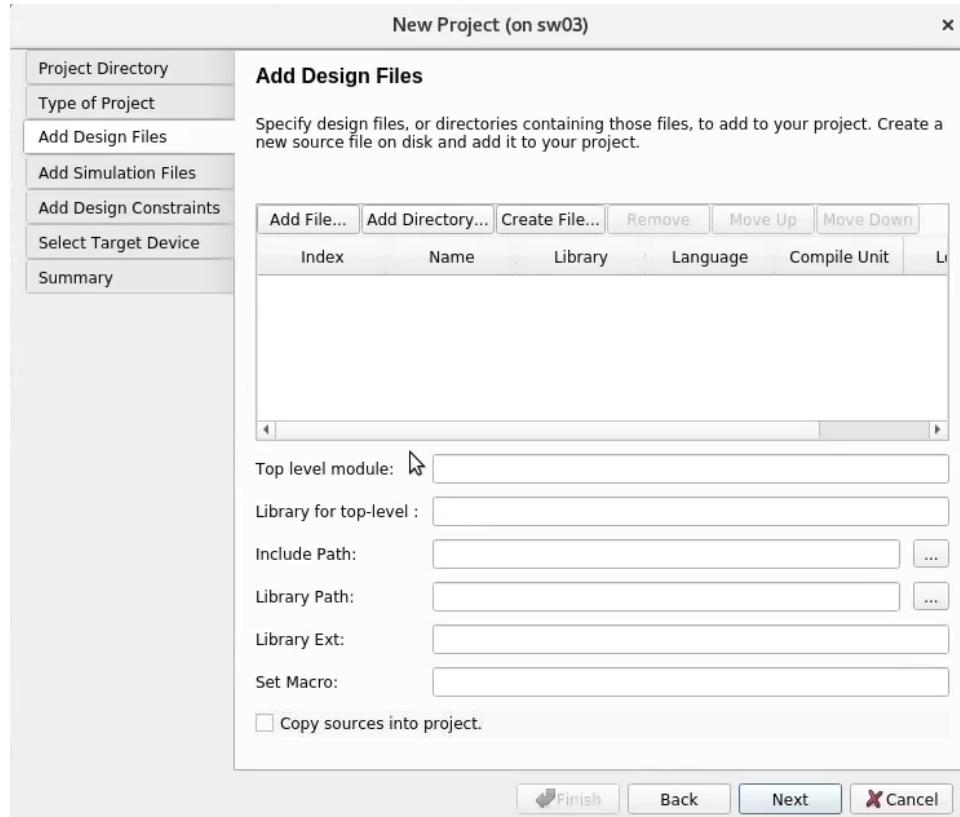

Figure 12. Add Design Files
3. Add Design Files: Various methods to add design files are described in Figure 12